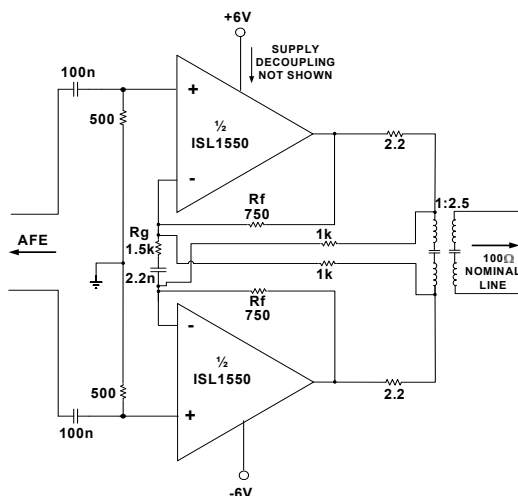

FIGURE 1. TYPICAL APPLICATION CIRCUIT
**Electrical Specifications** VS = ±6V, see Figure 1, TA = +25 °C, unless otherwise specified.
$V_{CC} = \pm 6V$ , See Figure 1,  $T_A = +25^\circ C$ ,  $C_0 = C_1 = 0V$  (Full power), Unless otherwise noted.